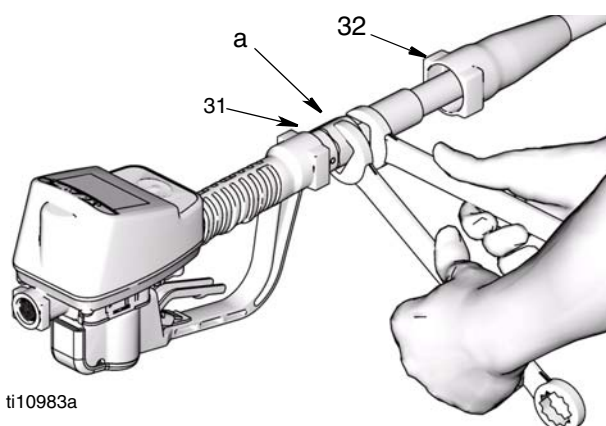

FIG. 17
Installing Meter (FIG. 17)
2. Slide the swivel boot (32) back, over the hose, small end first to access the swivel fitting (a).
3. Apply thread sealant to the male threads of the hose fitting. Thread the hose fitting into the meter swivel (31). Use two wrenches to tighten securely (FIG. 17).